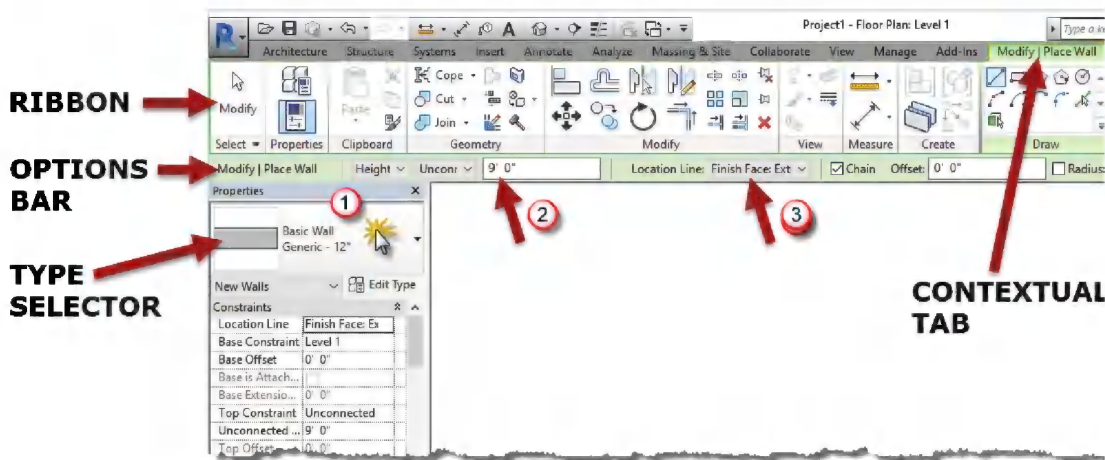

FIGURE 2-1.3 Ribbon and Options Bar
3. Modify the *Ribbon*, *Options Bar* and *Type Selector* to the following (Figure 2-1.3):